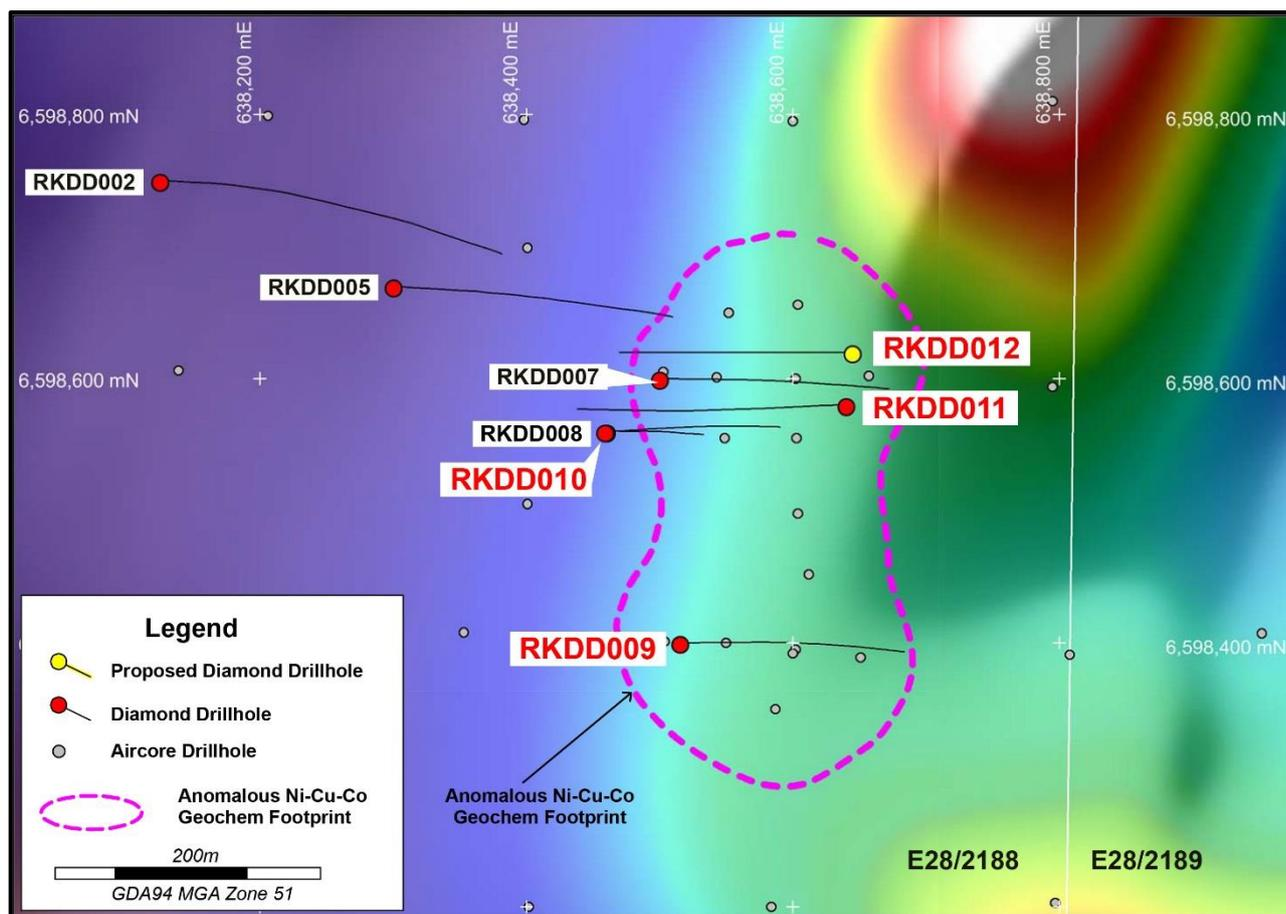

Figure 1: Mawson Diamond Drillhole Locations on Aeromagnetics
An additional three diamond drillholes (RKDD009-011) totalling 1,195.1m have been completed at Mawson, with downhole electromagnetic (DHTEM) surveying completed in holes RKDD009-010 (see Figure 1 and Table 1). DHTEM in RKDD011 is planned over the next five days. The drillholes were testing a combination of geophysical and geochemical targets, with RKDD011 intersecting an upper interval of 15m containing vein, breccia, disseminated and semi-massive sulphide, and a lower 21.6m interval containing three significant massive nickel-copper sulphide intercepts from 217.5m downhole. Details of the recent drilling are provided below.
RKDD011 was designed to test a strong 50,000-60,000S DHTM conductor identified from surveying in RKDD010 and also test for extensions to the sulphide mineralisation intersected in adjacent drillholes RKDD007 and RKDD008 (see Figures 1 & 2).
RKDD010 was drilled directly below RKDD008 targeting a position approximately 40m down-dip and to the west of the RKDD008 massive sulphide intersections (see Figures 1 & 2). The hole intersected minor brecciated sulphide mineralisation between 161.0-162.9m which correlates with the upper sulphide zone of RKDD008, but did not intersect massive sulphides at depth.
RKDD009 was designed to test beneath aircore drillhole RKAC151 (which returned an intersection of 47m @ 0.30% Ni, 0.11% Cu from 64m to EOH, see Figure 1 & ASX announcement 11 December 2017). The hole intersected a thick olivine mafic/ultramafic intrusive containing sporadic minor disseminated sulphide throughout, with the sulphide content increasing locally to heavy disseminated and minor semi-massive near the basal contact with footwall metasediments.
- Diamond drilling continuing with the collaring of RKDD012 testing geological and DHTeM geophysical targets (see Figure 1).